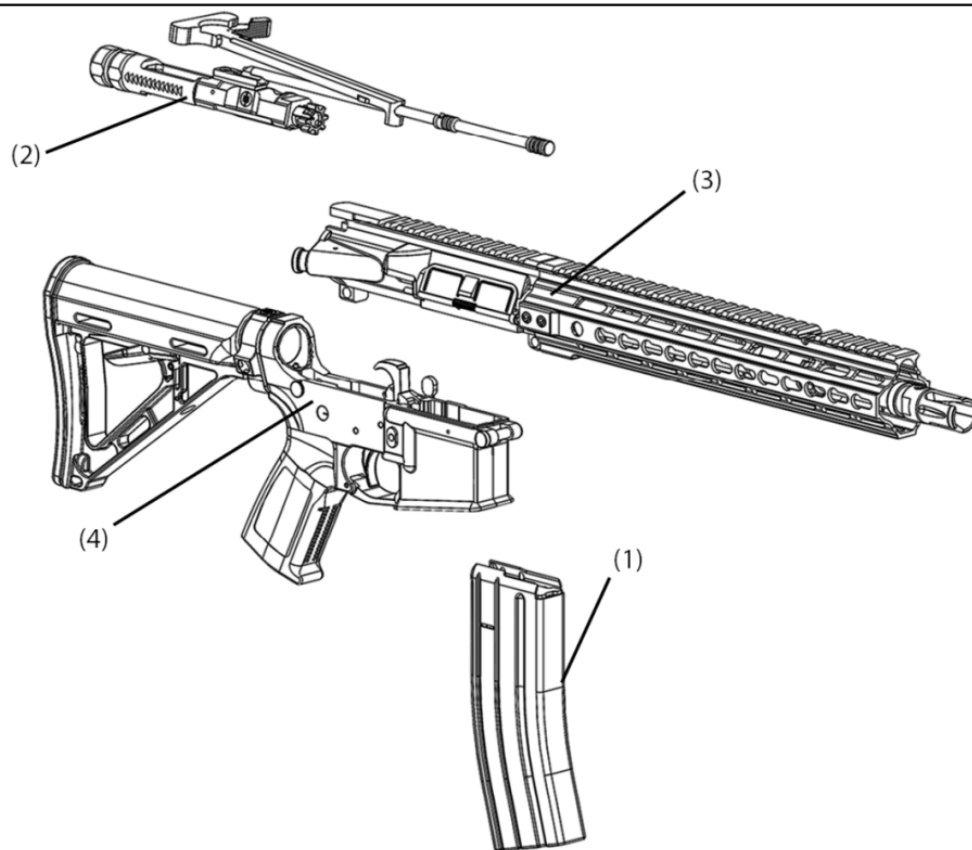

Figure 2.25
1. (Fig. 2.25, 2) Slide the charging handle to the rear of the operating rod until it stops against the carrier key portion of the BCG and operating rod.
2. Slide the BCG (2) into the upper receiver (3) and guide the lug portion of the charging handle into the receiver groove. Push BCG (2) forward into the receiver.
3. Place the upper (3) and lower receiver (4) together.